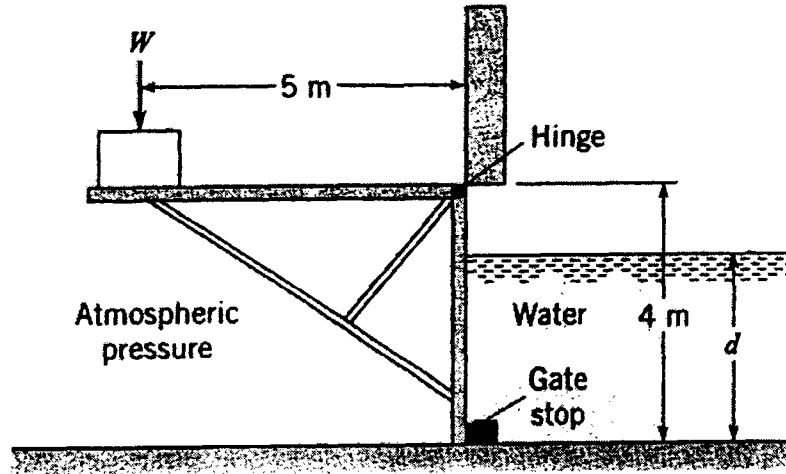

Figure Q3[a]
- Q3. [a] Estimate the depth d needed for the rectangular gate to automatically open if the weight $W = 60 \text{ kN}$ as shown in Figure Q3[a]. The gate is 4 m high and 2 m wide. Neglect the weight of the gate.